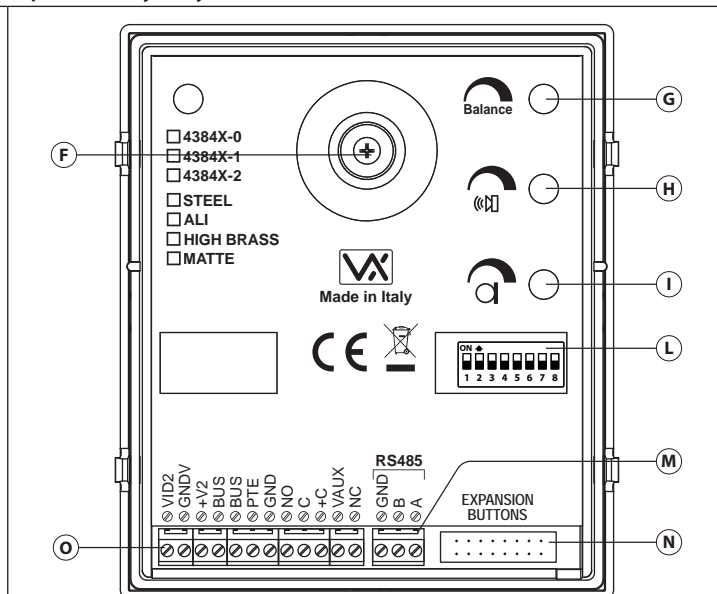

Fig. 2 Back
The settings are carried out through the 8 way dip-switch (reference (L) on **Fig. 2**) accessible from the rear side of the module.